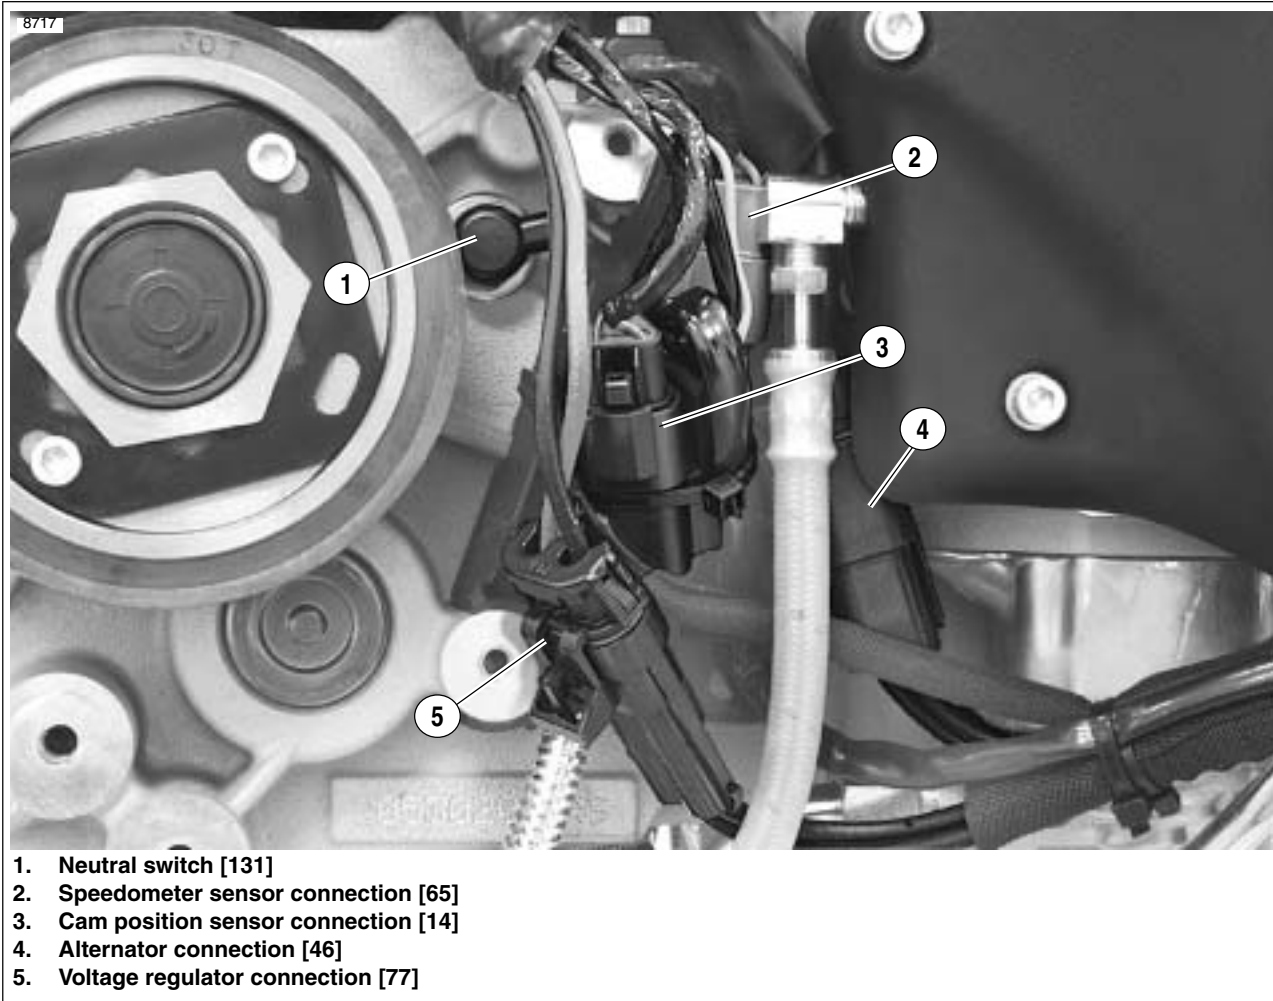

Figure 3-55. Electrical Connections
35. See Figure 3-55. Connect the following electrical components: